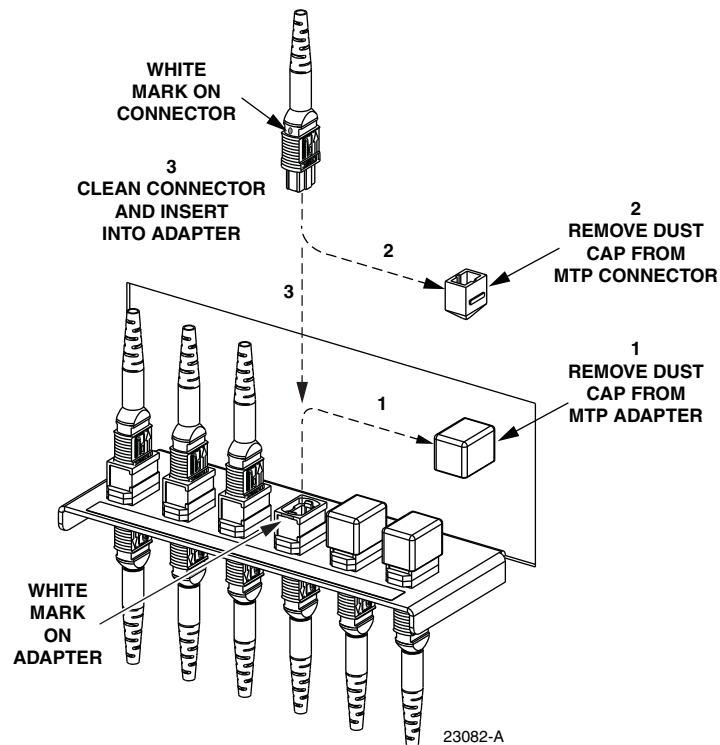

Figure 58. Connecting MTP Connector to MTP Adapter
13. Remove the dust caps from the bulkhead adapters and the cable MTP connectors as shown in Figure 58.